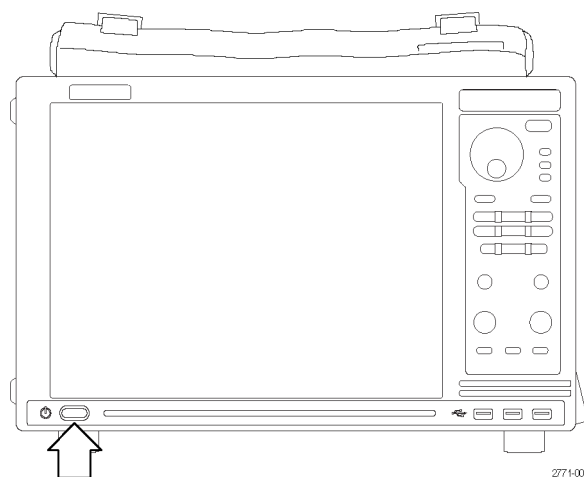

Figure 3: On/Standby switch location
3. Press the On/Standby switch to turn on the logic analyzer. (See Figure 3.)